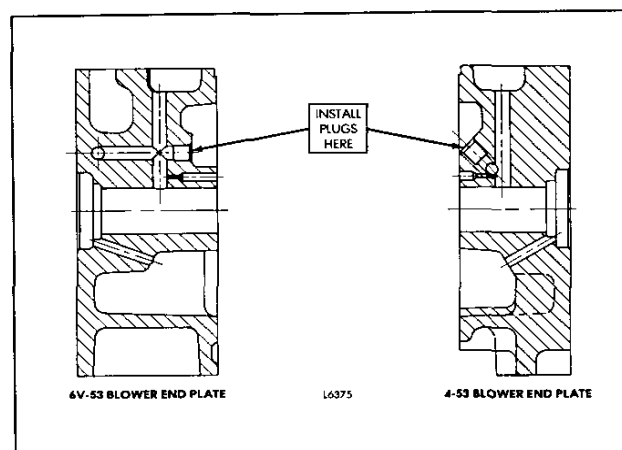

Fig. 12 - Location of Holes to be Plugged - Blower End Plates
4. Two 5/16" x 5/16" steel plugs are used in the blower end plates of all *turbocharged* engines to ensure that a full-pressure flow of lubricating oil is supplied to the engine and to the oil galleries in the turbocharger center housing. The plugs (if removed) must be installed in the diagonally drilled orifices which supply additional lubrication to the blower drive gears. Plugs are pressed flush to .03" below the surface of the end plates and staked in three places (Fig. 12). The plugs are not installed in the blower end plates of naturally aspirated engines.